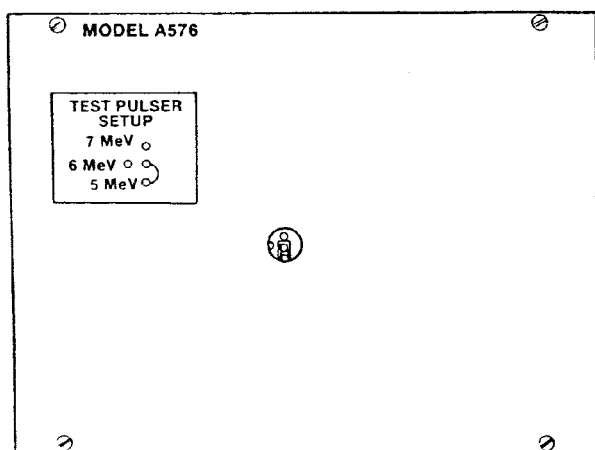

Fig. 3. Side-Panel Test Pulser Selection.
**TEST PULSE** The sixth jumper is used to set the equivalent energy of the test pulser to 5, 6, or 7 MeV. Change this jumper only if an energy other than 5 MeV is desired from the test pulser. The jumper can be changed through the hole in the side panel to an alternate position (Fig. 3).